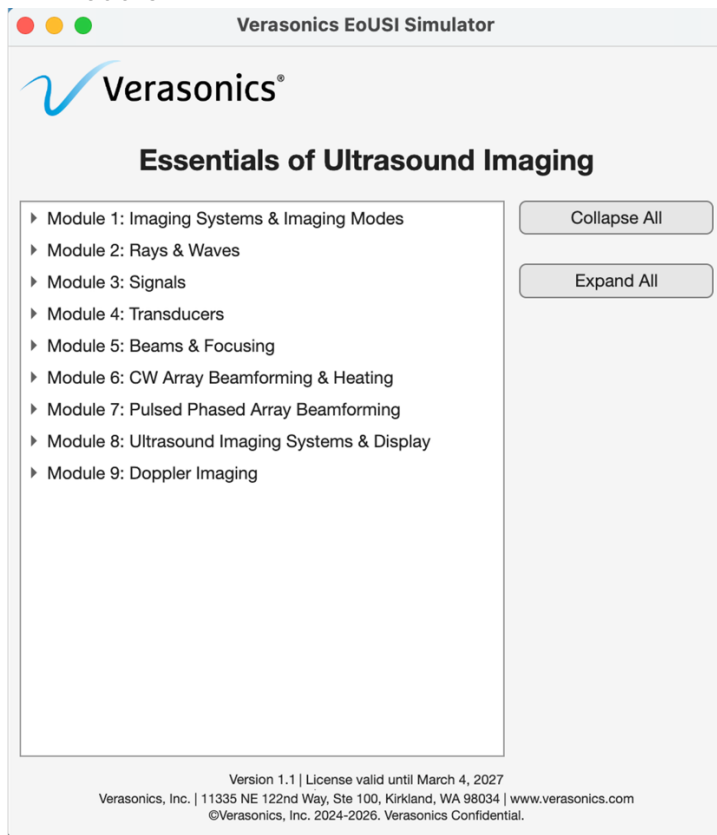

Figure 2: Simulator Launcher Window
6. Finally, open the installation folder, and click on the Essentials of Ultrasound icon to launch the Simulator Launcher window (as shown in *Figure 2*). The Simulator Launcher window presents all the simulators categorized under various course modules.
Simulators have an expiration date, which is displayed in the footer of the simulator launcher, as shown in Figure 2. The user will receive a warning starting 14 days prior to the expiration date; a pop-up window will appear when launching the simulator launcher with a message to warn the user about the expiration and instructions on how to obtain a new version. This new version can be downloaded from the Verasonics website (<https://verasonics.com/essentials-simulators-2/>).